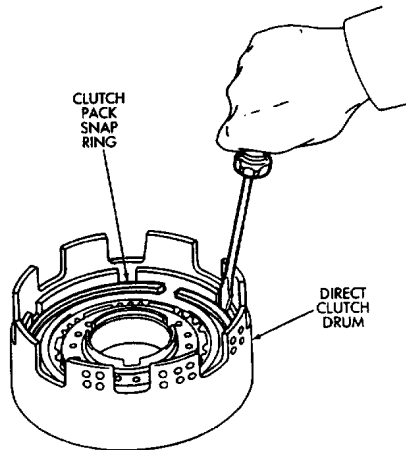

Fig. 6 Removing Clutch Pack Snap Ring
(7) Piston stroke length should be 1.37 mm to 1.60 mm (.0539 to .0642 in). If stroke length is incorrect, either the clutch pack retainer or clutch discs will have to be replaced.
(8) Compress clutch springs with tool B.Vi. FM. 27. Remove clutch pack snap ring and clutch pack from drum (Fig. 6).